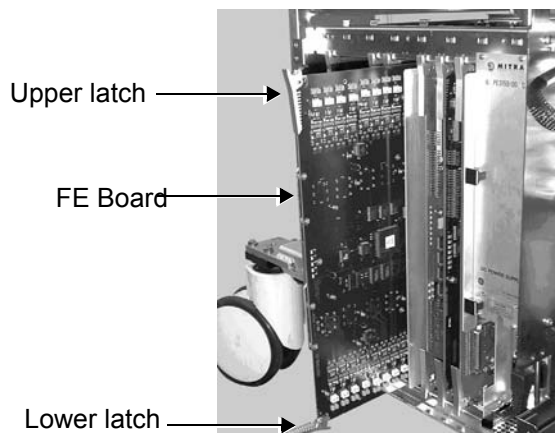

Figure 8-31 Front End Boards
- 3) Release the plastic latches located at the top and the bottom of each card (board) - see Figure 8-31.